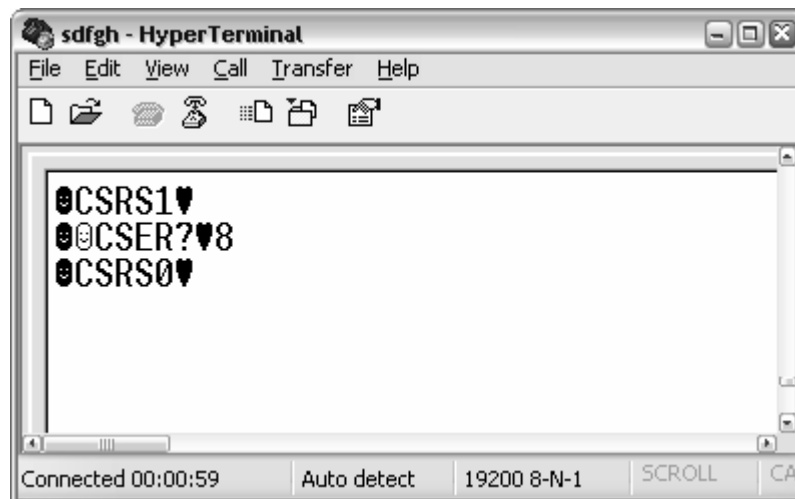

Figure 13 HyperTerminal window view after valid command reception
9. Check that the text in the HyperTerminal window reads as indicated in Figure 13. For firmware version 1.3 the characters transmitted by the remote should be CSRS1 and CSRS0 respectively and not as illustrated.